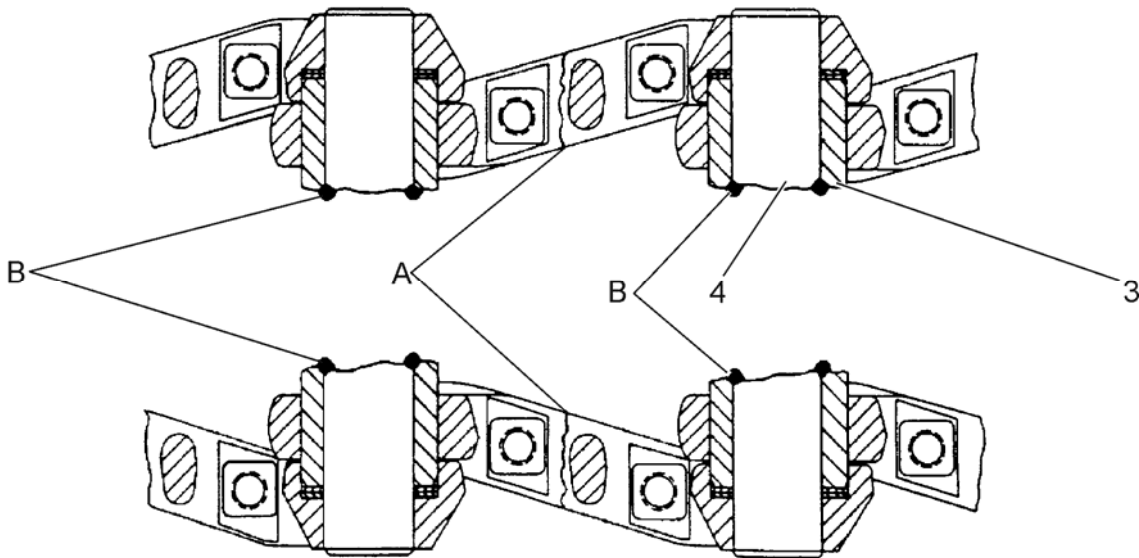

Fig. 15.18. Removal of Damaged Links
2. To replace an individual link that is damaged, remove the track from the machine. After the track is free and extended flat, remove three or four of the track shoes adjacent to the damaged part. Cut the pins and bushings of the damaged link with a torch. The cuts should be made as close to the inside faces of the inner links as possible (Fig. 15.18) to provide sufficient clearance between the links for the removal of the remaining pin and bushing sections.
3. The pieces of the pins and bushings remaining in the links must now be securely welded together at the cuts (Fig. 15.18). It is important that the welds be strong enough to carry the bushing out with the pin. Press each of the pin and bushing assemblies (welded) out of the links. Remove the sealing washers from the link counterbore.